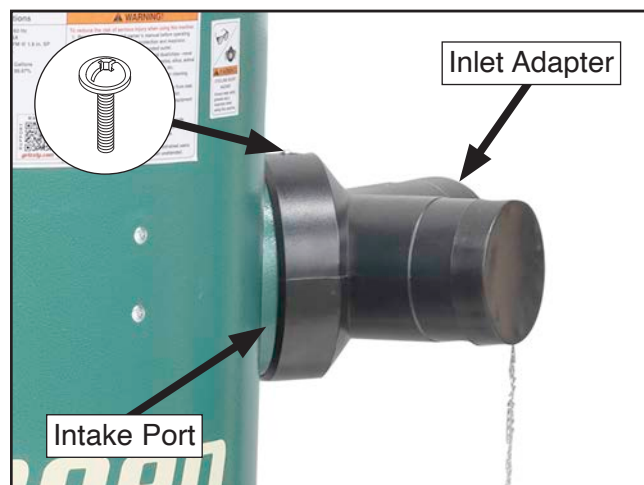

Figure 25. Inlet adapter attached to intake port.
19. Attach inlet adapter to intake port using (1) #10-24 x $\frac{3}{8}$ " flange screw (see **Figure 25**).